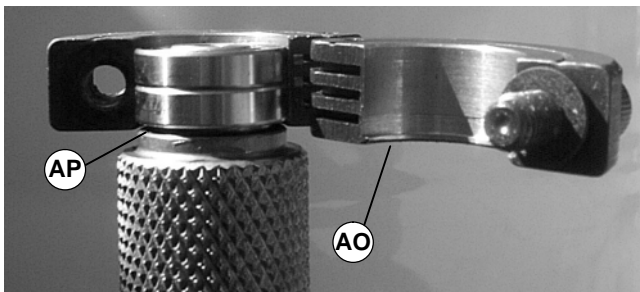

Figure 35
1. Place bearing removal tool (part # 450281) over bearing(s) with lip (AO of Figure 35) located in Bearing gap (AP) as shown.